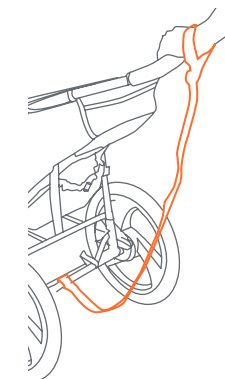
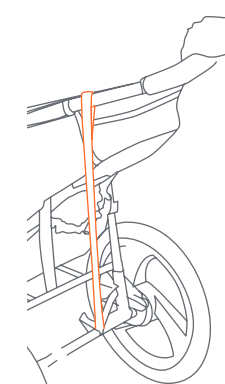

Fig. 17a
Fig. 17b
- **SAFETY WRIST STRAP:** Always connect the safety strap to either wrist when jogging. This strap will keep the stroller from rolling away in the event that you trip while running (Fig. 17a). The safety strap must remain connected to the rear lower frame cross member at all times. This location is intended to prevent the stroller being tipped backward in the event that you do fall to the ground. The safety strap includes a hook and loop attachment for storage, on the left side of the stroller, when not in use (Fig. 17b).